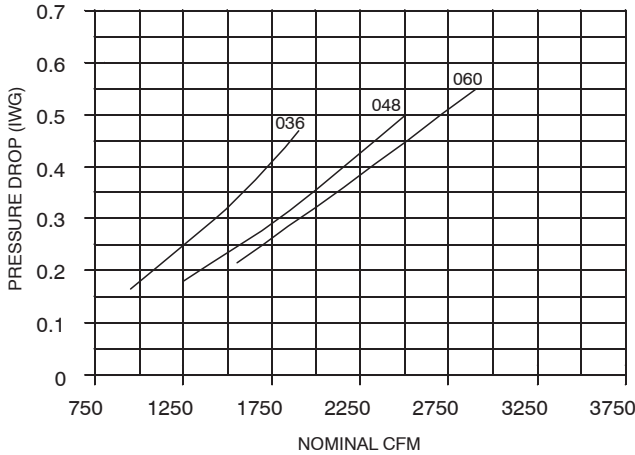

FIG. 15 - PRESSURE DROP ACROSS A DRY EVAPORATOR COIL VS SUPPLY AIR CFM, WITHOUT AIR FILTERS
- Knowing the pressure drop across a dry coil, the actual CFM through the unit can be determined from the curve in Figure 15.